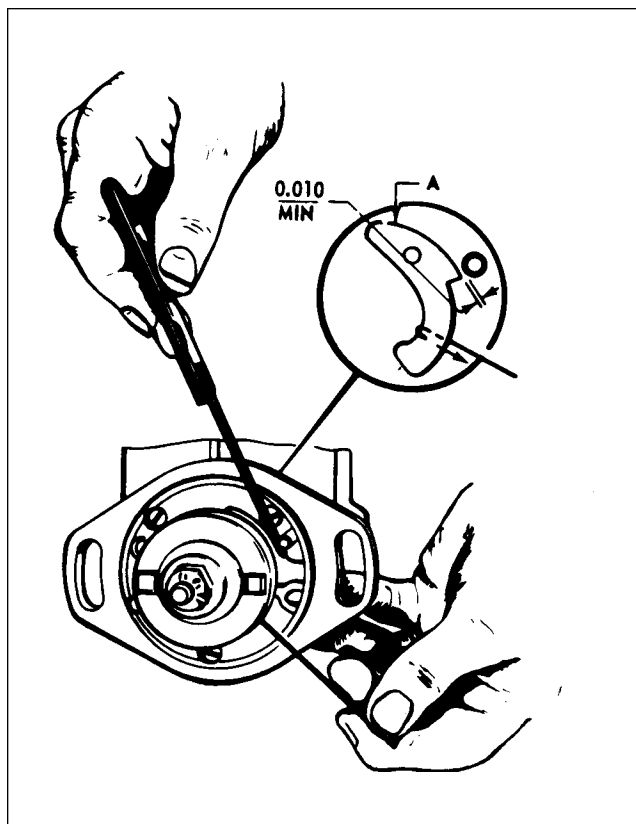

Figure 8-12. Flyweight Clearance of Impulse Coupling
2. Hold magneto as shown in Figure 8-12. Pull heel of flyweight outward with the hooked wire and make certain that feeler gauge of 0.010 inch minimum thickness will pass between stop pin and the highest point of the flyweight.